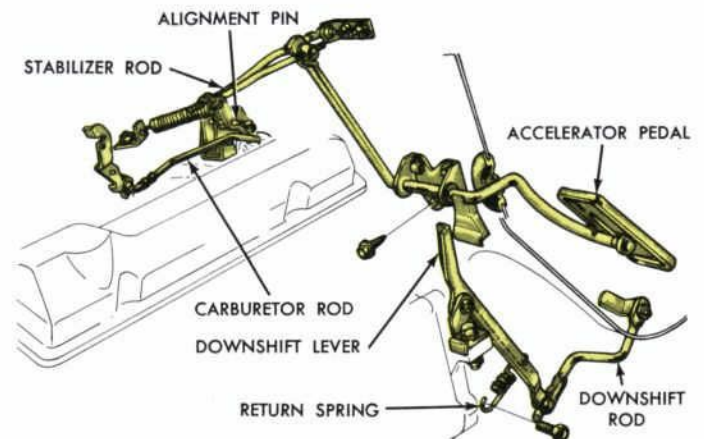

Fig. 86—Fairlane Throttle Linkage
- ① Disconnect the carburetor rod and the accelerator rod (Fig. 86).
- ② Disconnect the stabilizer rod from the bell crank lever.
- ③ Insert a 1/4-inch diameter pin through the bell crank and bracket.
- ④ Adjust the length of the stabilizer rod so that the trunnion enters the bell crank freely, with the alignment pin in place. Secure the stabilizer rod with the retaining clip.
- ⑤ Secure the carburetor rod to the bell crank with the attaching clip.
- ⑥ Adjust the length of the accelerator rod to obtain an accelerator pedal height of 4-4 1/4 inches measured at the pedal as shown. Connect the accelerator rod to the accelerator shaft with the retaining clip after the proper accelerator pedal height has been established. Remove the alignment pin.